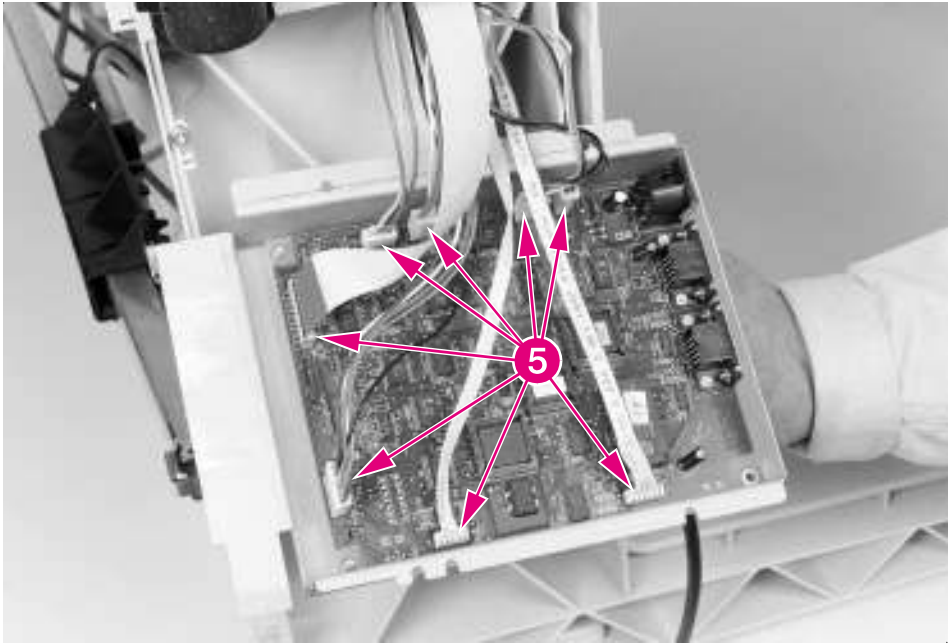

Figure 6-166 8-bin Mailbox Controller PCA (2 of 2)
- 9** Disconnect the 8 cables from the Controller PCA (Figure 6-166, callout 5).
- 2 Release the Controller PCA from the 8-bin Mailbox frame, but leave the wire cables connected to the Controller PCA (see Figure 6-166).